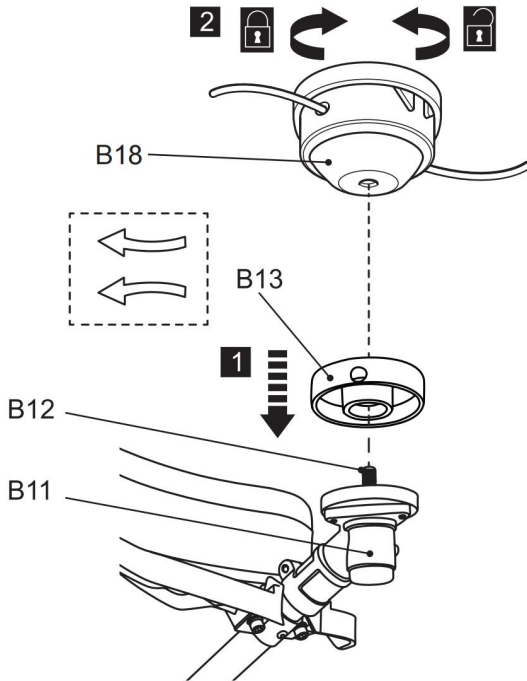

Fig. 6
- 4) Screw the trimming head (B18) counterclockwise onto the spindle (B12) and tighten it by hand while locking the spindle (B12) with the hex key (E5). Remove the hex key afterward (Fig. 6).